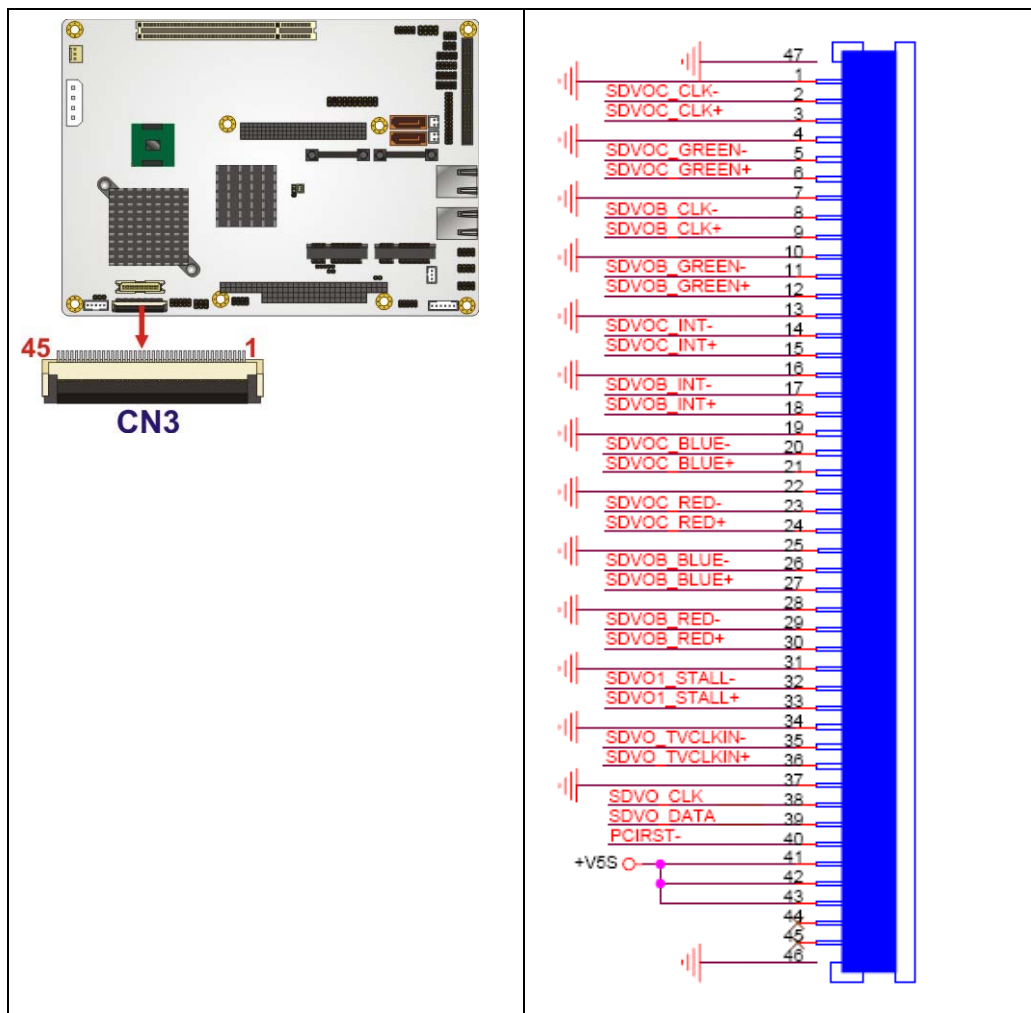

Figure 4-17: SDVO Connector Pinout Locations
- CN Location:** See **Figure 4-17**